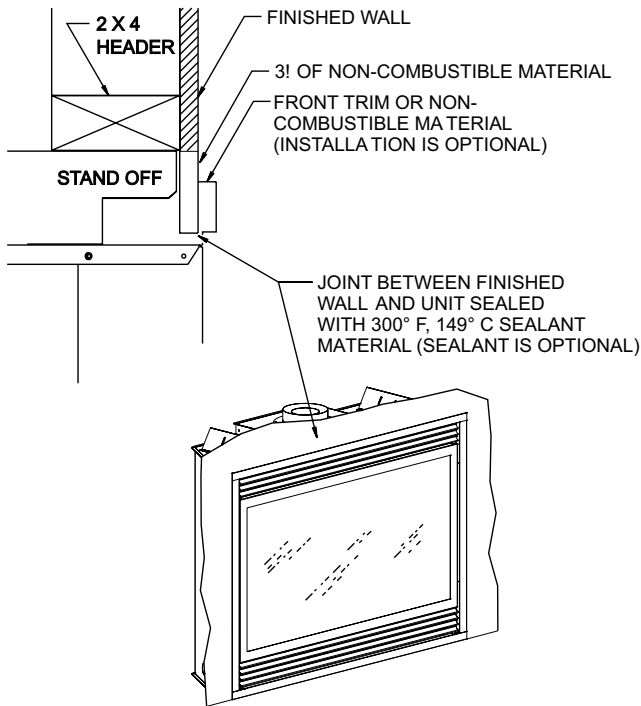

Figure 12
**Note:** For finishing to top of fireplace, refer to Figure 12.
### Finishing (Figures 12 and 13)